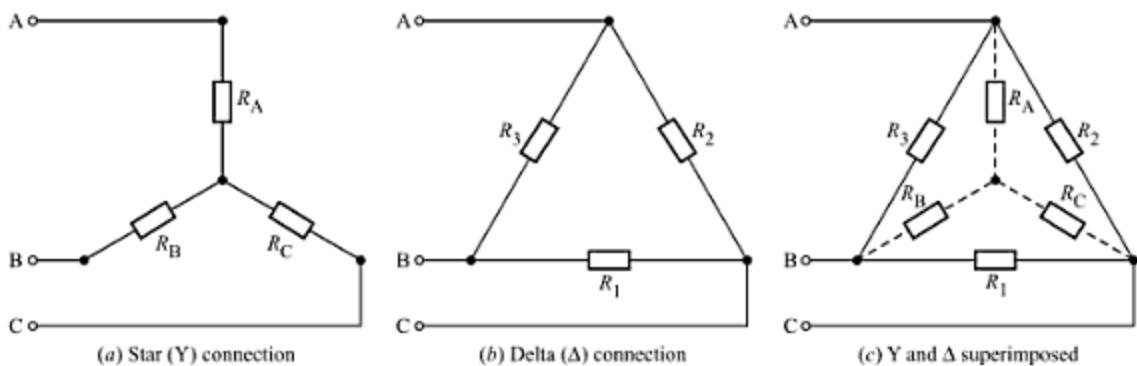

Fig. 2.13 Three resistances connected across three points.
**Delta-to-Star Transformation** If the two arrangements in Fig. 2.13 are to be equivalent, the resistance between any pair of terminals (AB, BC or CA) in the two circuits has to be the same, when the third line is left open. Keeping terminal A open, we equate the resistance between terminals B and C in the two circuits, to get